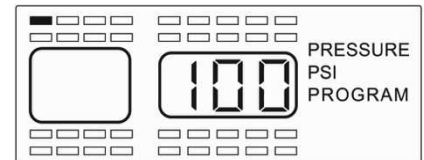

Figure 2-7
- 7) Once all sensors have been programmed, press the “P” button momentarily to move to the Baseline Pressure Settings. The monitor will now display the screen shown in **Figure 2-7**. Note, press and hold “P” for 5 seconds to exit programming mode and return to normal operating mode at any time.
NOTE: To enter into Baseline Pressure Programming Mode from the Normal Operation Screen, press and hold the “P” button for 5 seconds until the “PROGRAM” screen is displayed. Then press the “P” button once to access the Baseline Pressure Programming screen “PRESSURE PSI PROGRAM” (See Figure 2-7).